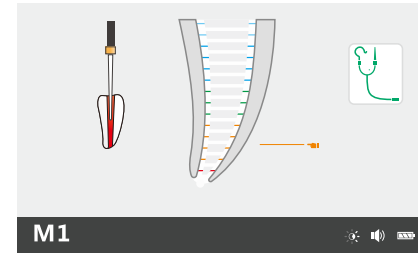

Fig.18 Coronal and Medial Area
- File movement along the coronal and medial section towards the apex area is represented on the full root canal image by the file continuously moving down (Fig. 18).